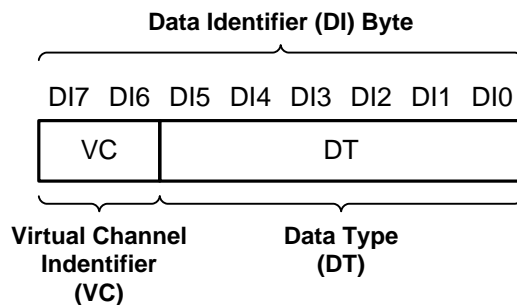

Figure 32. CSI-2 Data Identifier Structure
The DS90UH940-Q1 MIPI CSI-2 protocol interface transmits the data identifier byte containing the values for the virtual channel ID (VC) and data type (DT) for the application specific payload data, as shown in Figure 32. The virtual channel ID is contained in the 2 MSBs of the data identifier byte and identify the data as directed to one of four virtual channels. The value of the data type is contained in the 6 LSBs of the data identifier byte.